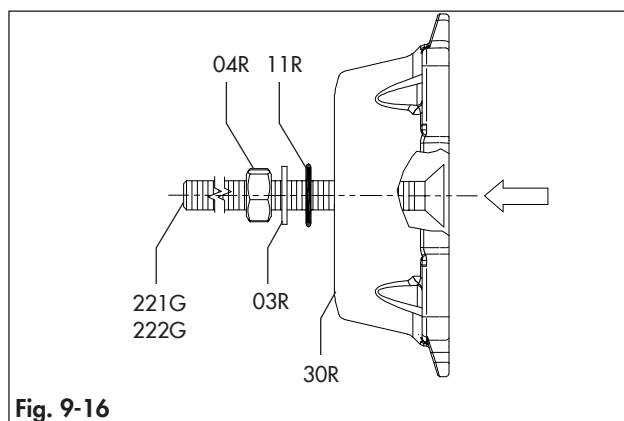

Fig. 9-16
- fasten the stop screws (221G/222G) into the end caps (30) aligning the head of the screw to the end cap surface as shown in Fig. 9-16.